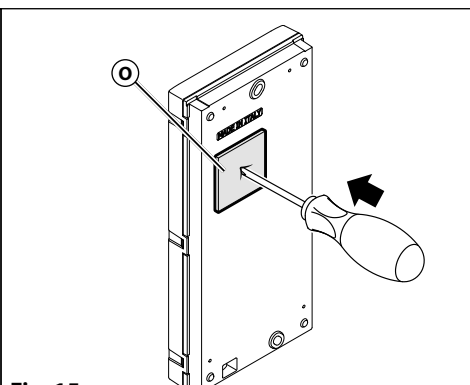
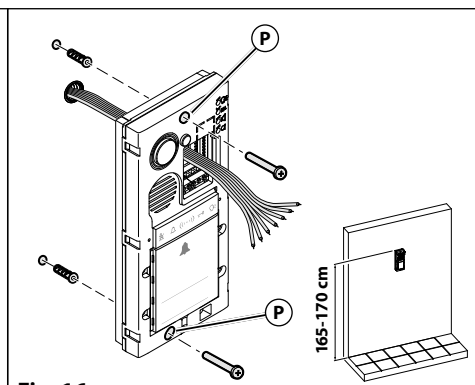

Fig. 15
Fig. 16
2. Make a hole in the middle of the cable hole gasket (O) placed in the back side with a screwdriver (Fig. 15).
3. Pass the cables through the hole (O) and mark the fixing holes (P), make the holes and fix the device with the provided wall plugs
**The distance between the top of the device and the floor should be approximately 165-170 cm (Fig. 16).**